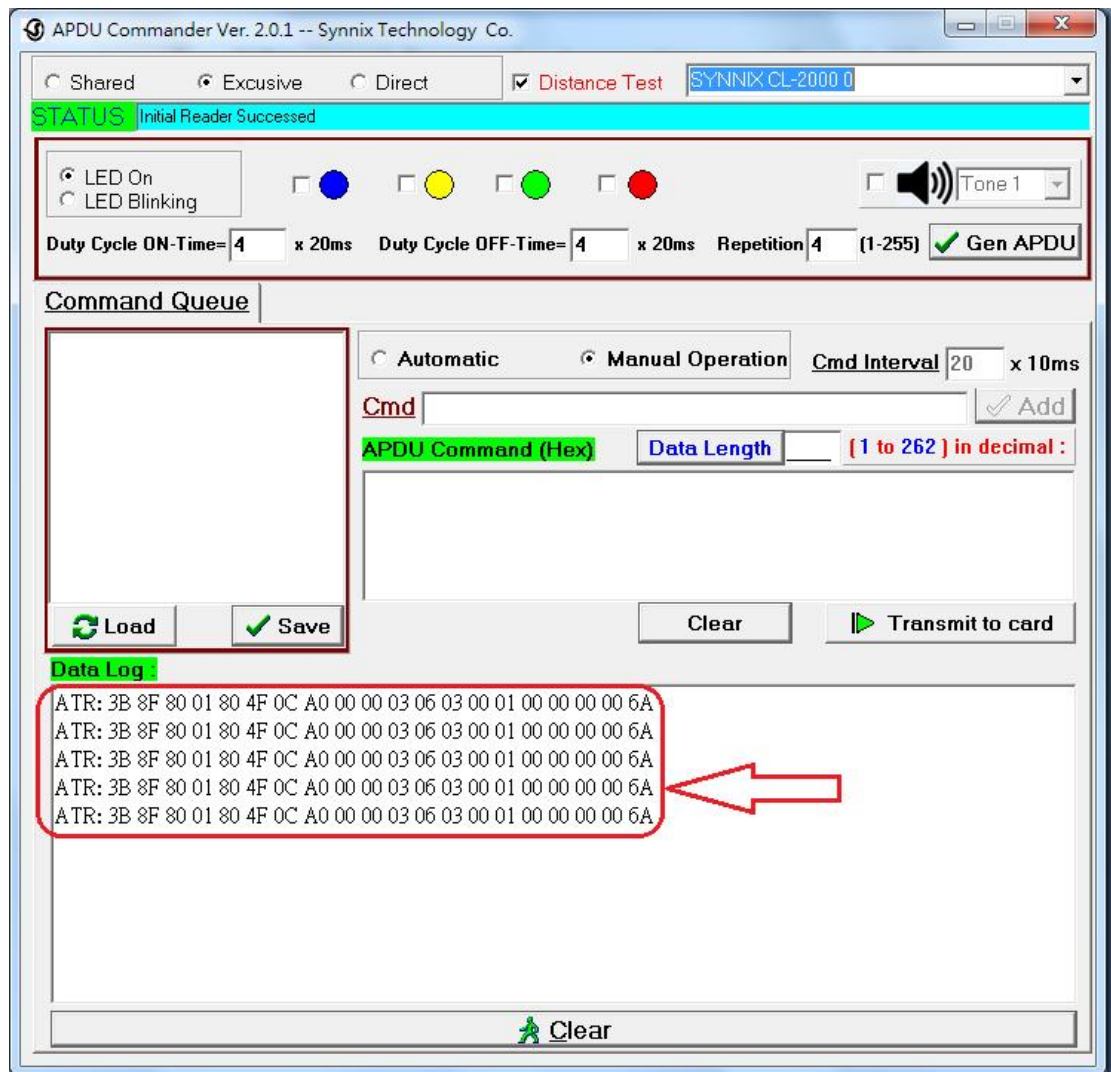

Figure 2
5. At this moment, the card's upward or downward movement will vary. In available sensing distance, the ATR string from card will be displayed continuously in "DataLog" field . If it exceeds the sensing distance, the ATR will not displayed. see Figure 2.